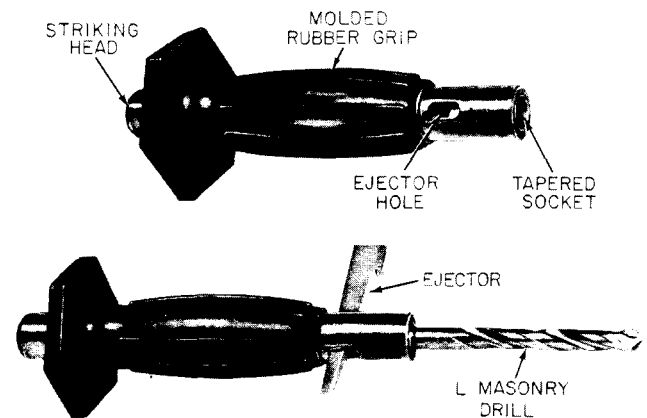

Fig. 1—L Drill Holder
**3.02** The L Drill Holder consists of a length of round tool steel with a tapered socket in one end to accommodate the drill shank and a beveled striking head on the other end. A soft rubber grip is molded around the holder to facilitate holding and turning during the hand drilling operations. An elongated hole located in the socket end is for inserting the ejector to remove the drill from the socket (Fig. 1).